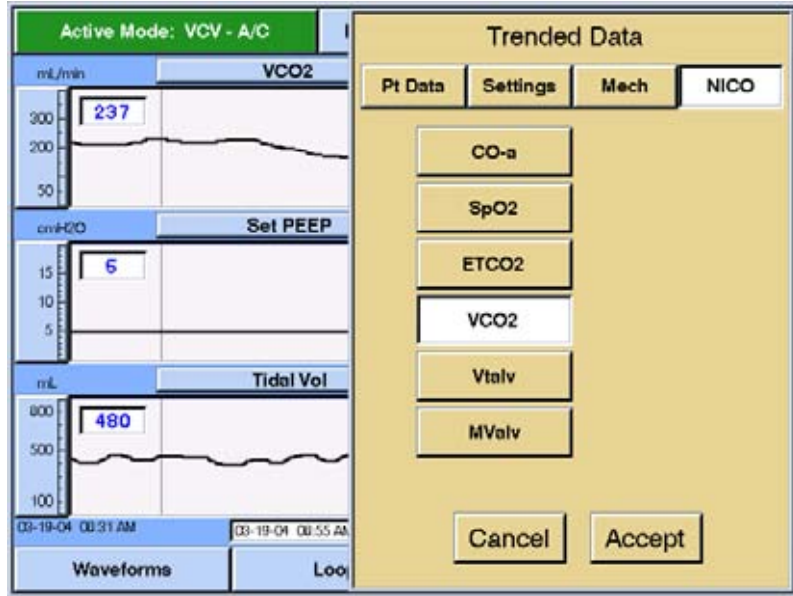

Figure 13-51: Trended Data screen
3. Press the **NICO** button on the Trended Data pop-up window to view the available parameters. See Figure 13-51.